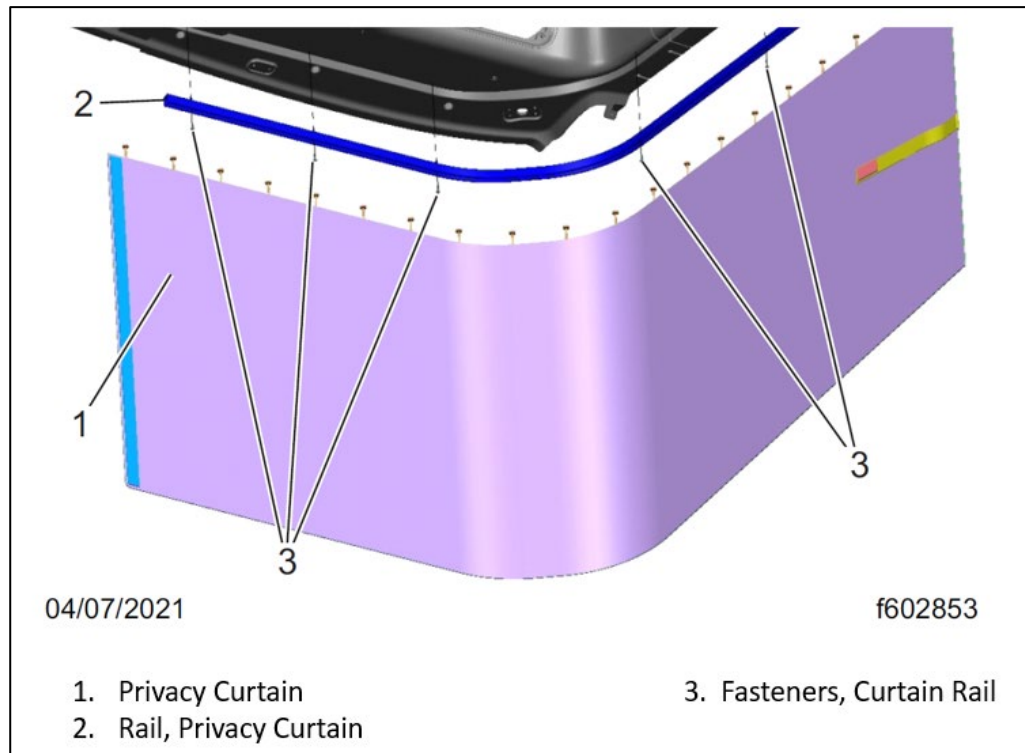

Fig. 53, Privacy Curtain Rail Assembly
9.1. Remove the fasteners that attach the privacy curtain rail to the RH side overhead storage assembly. See Fig. 53.